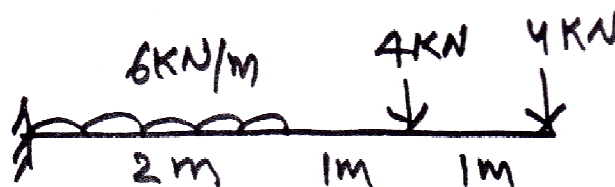

Fig.1
Q:3 Draw shear force diagram for a cantilever beam. For Fig.1 (05)
Q:4 Draw bending moment diagram for a cantilever beam. For Fig 1. (05)